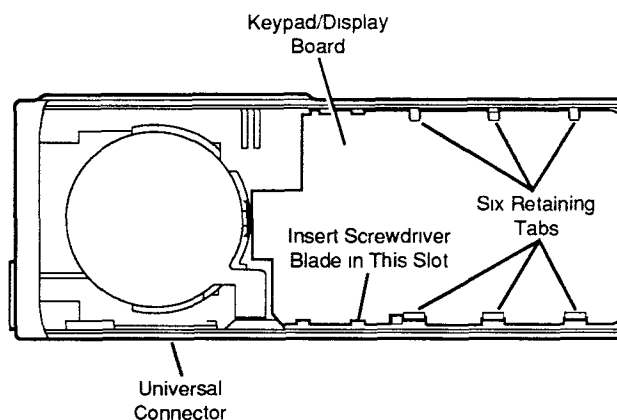

Figure 9
- On front display model radios only, notice that the keypad/display board is secured to the front cover housing using six tabs, three small tabs on one side and three larger tabs on the universal connector side. Remove the keypad/display board by inserting a small flat-blade screwdriver in the circuit board slot provided (slot nearest the top retaining tab on the universal connector side of the radio, see figure 9). A slight prying action will release the keypad/display board. If applicable, remove the rubber keypad.